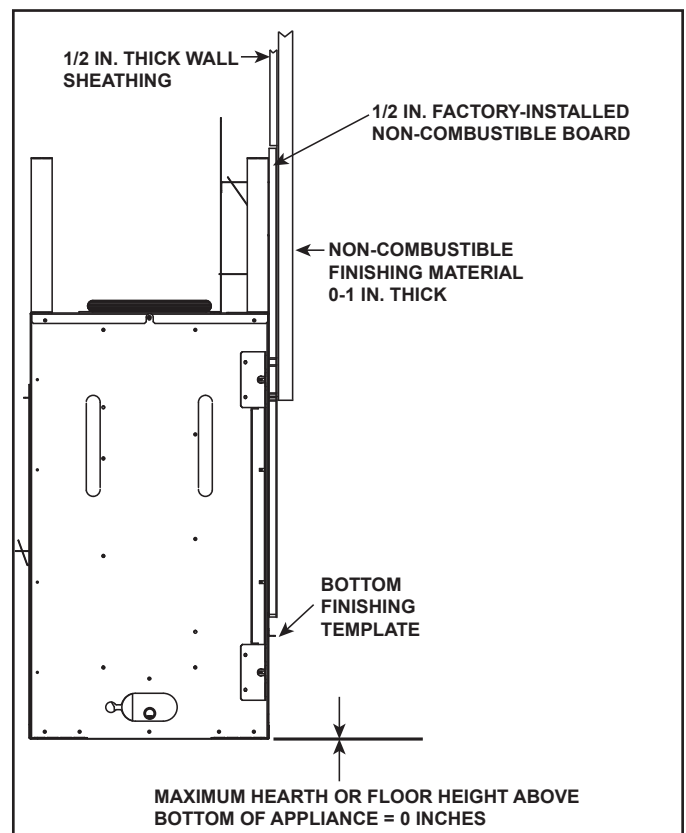

Figure 10.6 Finishing and Facing Materials - Overlap Fit
- A non-combustible hearth may be installed at the same level as the bottom of the appliance or lower. It may not cover any part of the appliance. See Figure 10.6.